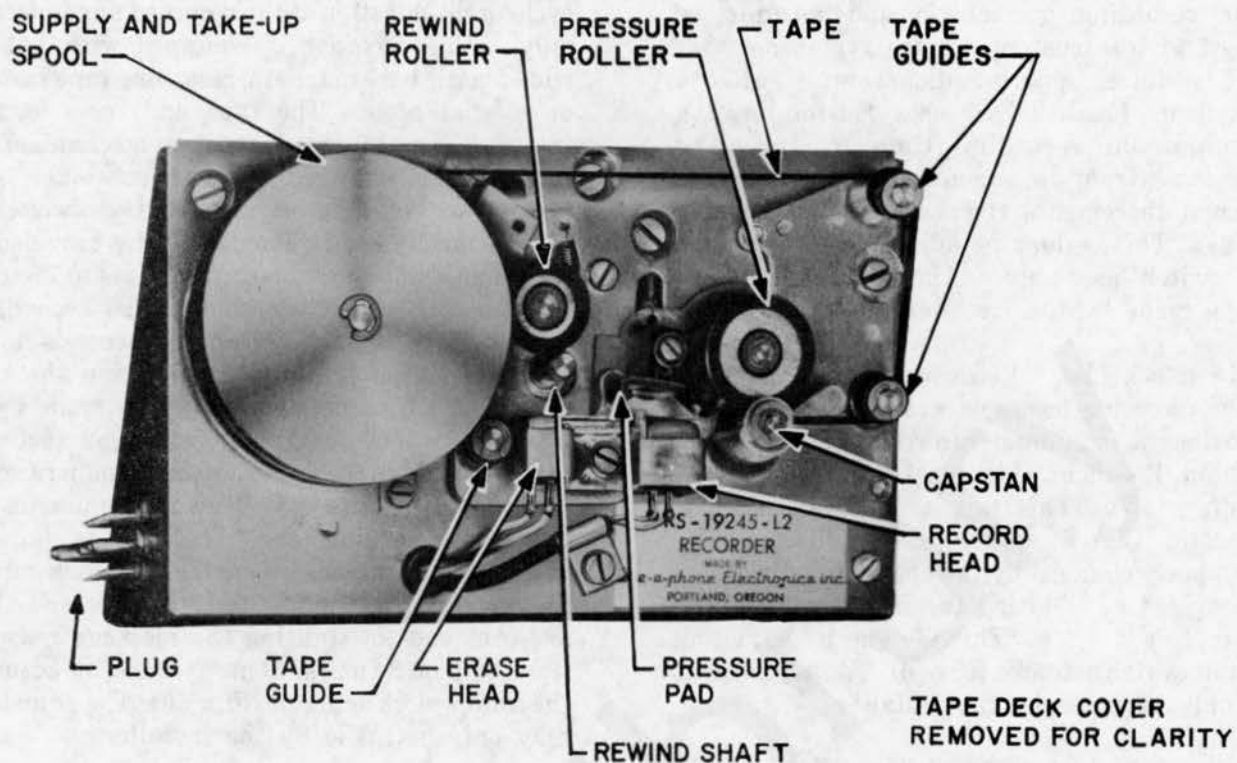

Fig. 3—KS-19245, List 2 Recorder (Reel Side)
- (a) KS-19245, List 2 Recorder (Fig. 3 and 4) is the announcement recording mechanism. It provides a maximum recording capacity of 3 minutes, and incorporates a variable cycle feature that limits the reproduce cycle to the duration of the recorded announcement only. This recorder is equipped with 1/4-inch wide plastic base magnetic recording tape installed on special reels. The tape and reels form an integral part